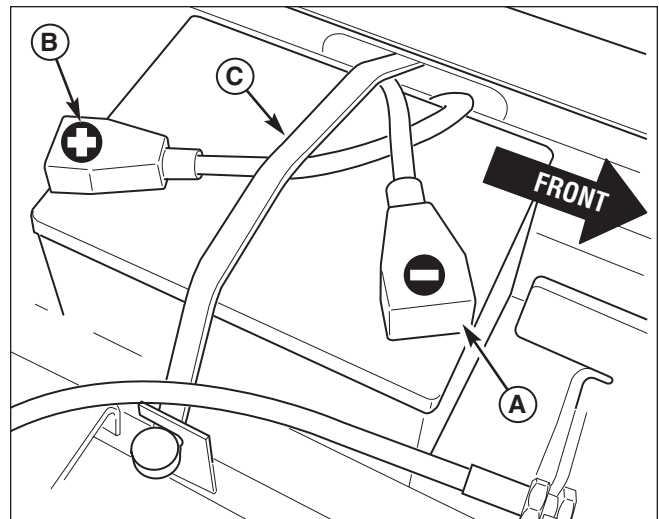

Figure 26. Battery Compartment
1. Disconnect the cables from the battery, negative cable first (A, Figure 26).
2. Remove the battery retainer strap (C).
5. Reinstall the battery and reattach the battery cables, positive cable first (B).
6. Secure the battery with the retainer strap (C).